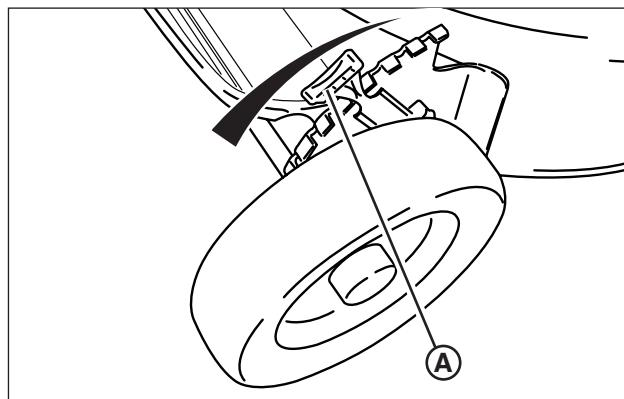

Figure 6: Adjusting cutting height
1. Pull the height adjusting latch (**A**, Figure 6) outward and move to the desired cutting height.